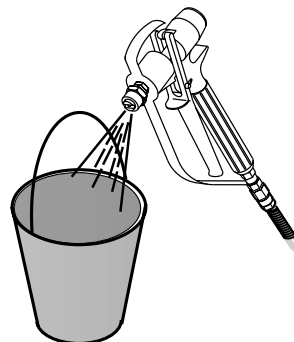

Fig.23
10) The product that is discharged during the unloading or the residues during washing **MUST NEVER** be dispersed on the ground but collected in suitable containers and disposed of in accordance with local regulations (Fig.23).